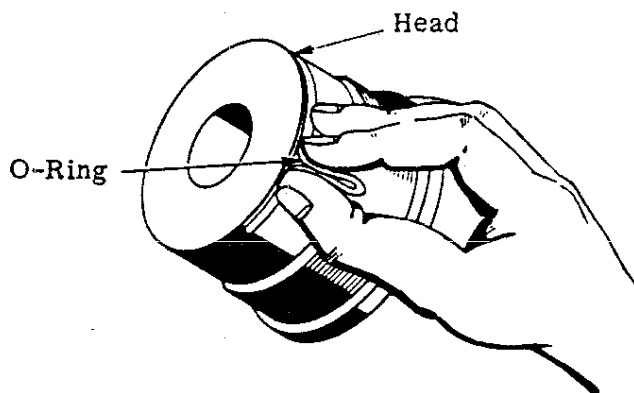

Figure G1-3. O-RING REMOVAL
9. Work a slack section into the head seal static o-ring and pick it up out of the groove (Figure G1-3). Lift the static back-up out of its groove with the needle nose pliers.